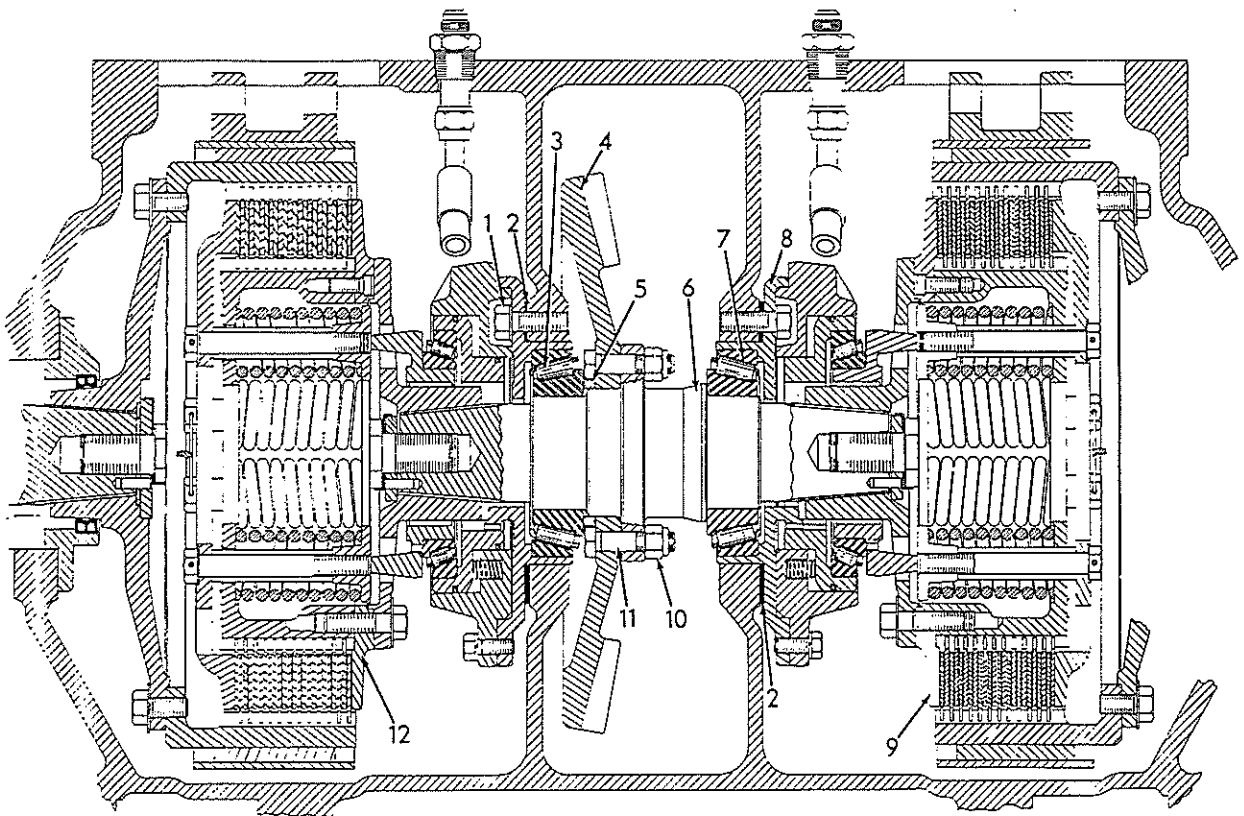
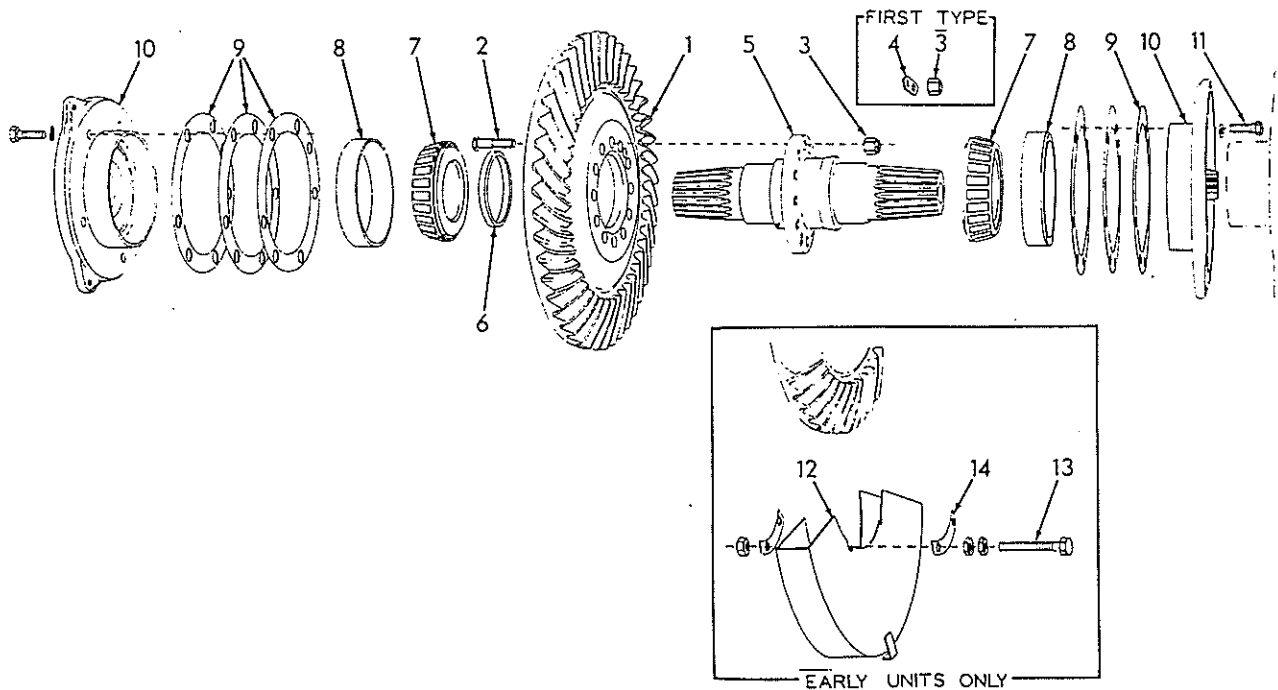
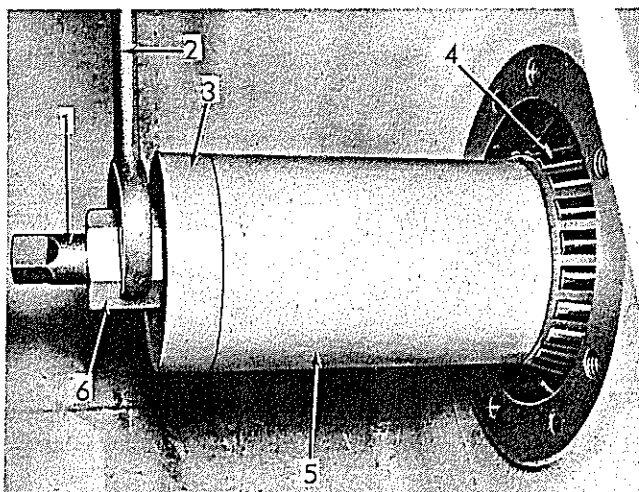

Fig. 19 Bevel Gear and Shaft - Sectional View
Fig. 21 Bevel Gear and Shaft Details
Fig. 22 Installing Bevel Gear Shaft Bearing Cone
The bevel gear, located in center compartment of steering clutch and final drive housing, is attached to bevel gear shaft, Fig. 19. Bevel gear shaft is supported at each end by tapered roller bearings in removable cages. Bevel gear is driven by transmission bevel pinion; power from bevel gear is transmitted through steering clutches to final drives.
3. Refer to Fig. 19; remove capscrews attaching bearing cages (8) to inner walls of steering clutch compartments; place wooden block under bevel gear to support gear and shaft and remove bearing cages; tie bearing adjustment shims (2) to respective cages to prevent loss. Mark bearing cages so they will be reinstalled in original positions (left and right).
Prior to S/N 15948, oil pan capscrews Fig. 21 replace two bottom capscrews in left bearing cage.
1. Refer to Fig. 19, press one bearing cone (3) on long end of shaft with large O.D. of bearing against shoulder on shaft. Place bevel gear on bench (with teeth of gear downward). Position capscrew locking ring (5) on bevel gear and install bevel gear capscrews (11); turn capscrew heads as necessary to clear locking ring as capscrews are installed.
2. Remove locking ring and position bevel gear in bevel gear compartment with teeth of gear facing right steering clutch compartment. Install bevel gear shaft through right steering clutch compartment and align capscrews in bevel gear with holes in bolting flange of shaft. Bump or drive bevel gear shaft into bevel gear until locking plates Fig. 21 (4) and high nuts (3) (or elastic stop nuts Fig. 19(10)) can be started on capscrews. Install locking ring Fig. 21 (6) and tighten nuts evenly until bevel gear is properly located on shaft.
3. Lubricate other bearing cone, Fig. 21 (7) and start on short end of bevel gear shaft with large O.D. of bearing toward bevel gear. Refer to Fig. 22; install puller screw in tapped hole in end of shaft and place tube against inner race of bearing cone. Install tube end plate, thrust washer, and hex-nut; tighten hex-nut until bearing cone is against capscrew locking ring. Remove tools.
4. Press bearing cups Fig. 19 (7) in bearing cages (8); make certain cups are seated firmly in cages. Lubricate bearings with clean oil and install each bearing cage (with original bearing adjustment shims) in bore from which it was removed. Start bearing cage attaching capscrews (1), but do not tighten at this time.